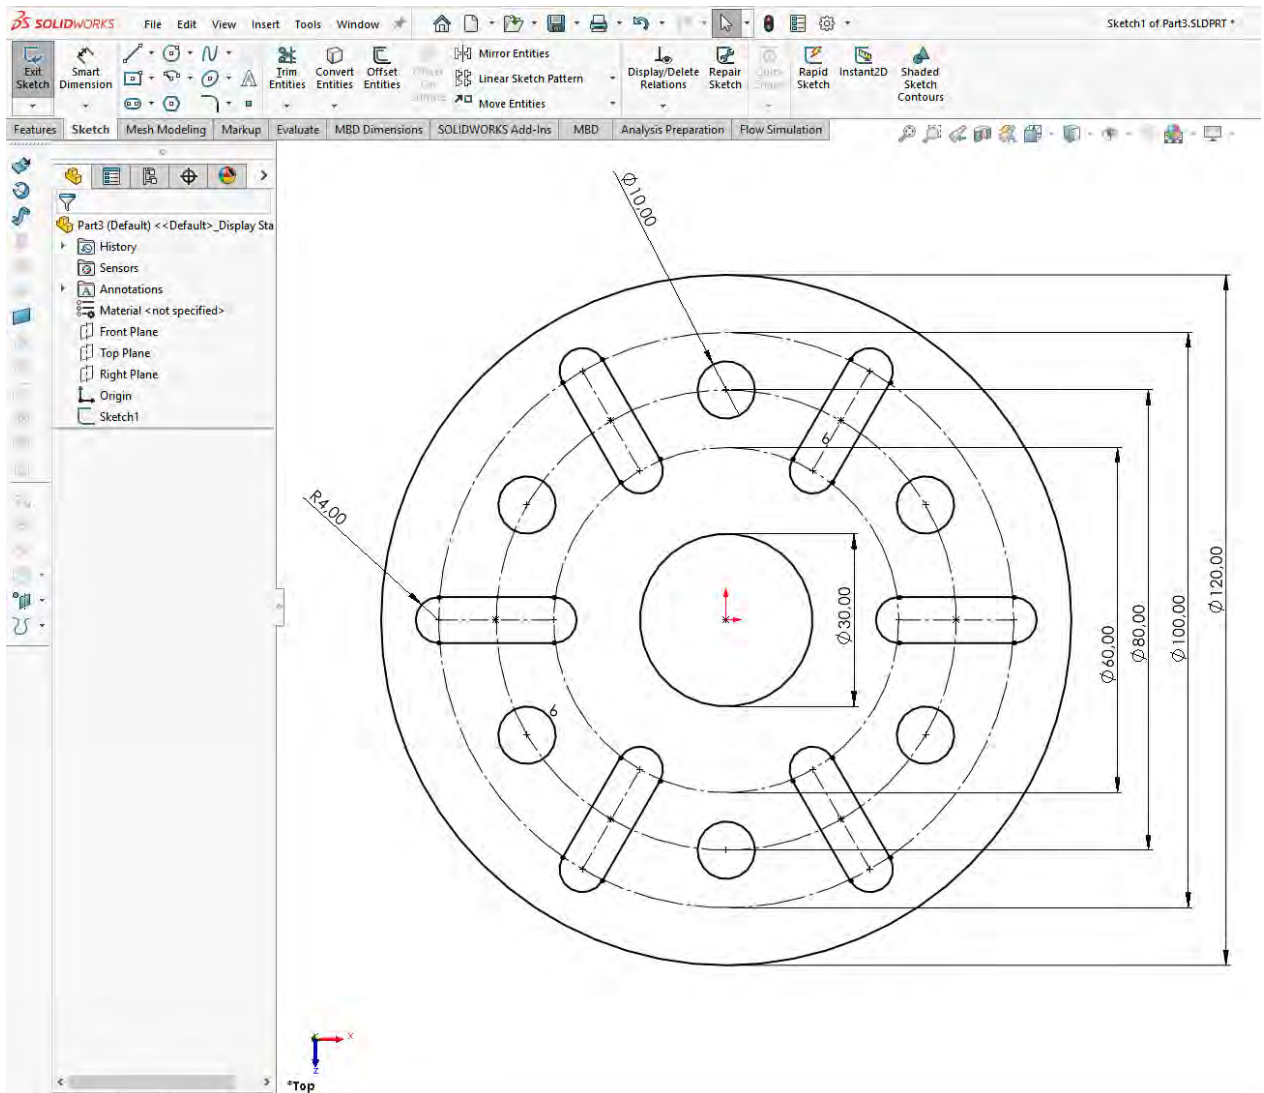

Fig. 4
On the selected plane (for example, Front Plane) click **Sketch**. The origin is used as the base point for constructing symmetrical elements (Fig. 4).
- Using tools such as Line, Arc, Circle, Polygon, Slot, etc., construct the contour of the membrane cut (Fig. 4).
- Set dimensions via **Smart Dimension** and set geometric dependencies (parallelism, perpendicularity, symmetry, coincidence, etc.) so that the sketch is fully defined (Fig. 4).